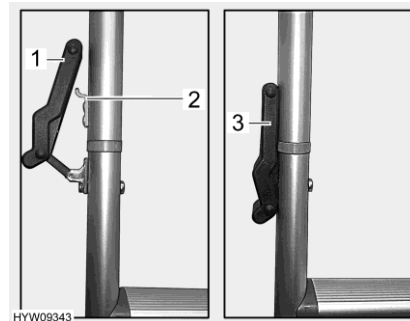

Fig. 50 Lock (access ladder)
- Hook the rubber fasteners (Fig. 50,1) into the hooks (Fig. 50,2) and press downwards on both sides. Make sure that the rubber fasteners (Fig. 50,3) are in firm contact to the side rails.
- Release the rubber fasteners (Fig. 50,3).